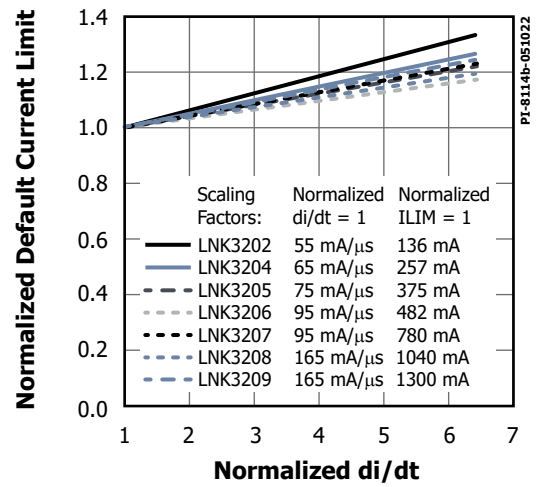

Figure 21. Default Current Limit vs. di/dt.
- For current limit at other di/dt values, refer to Figures 21 and 22.